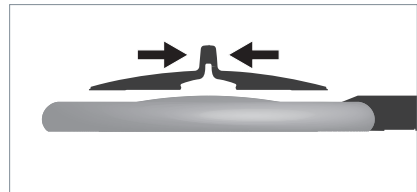

Fig. 3: Mounting the magnifier cover.
- ▶ Compress the upper part of the magnifier cover, see Fig. 3.